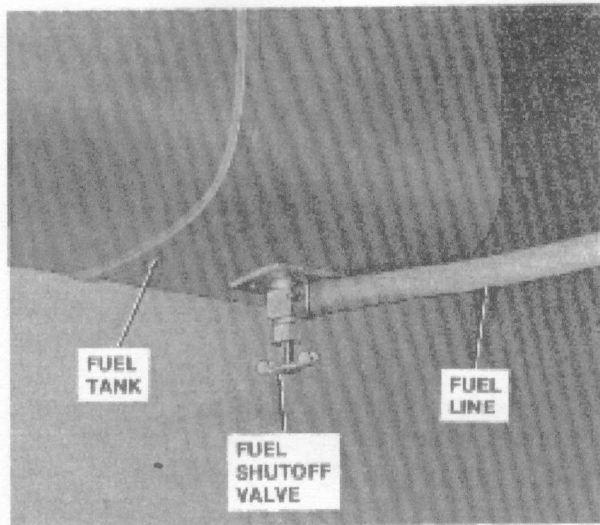
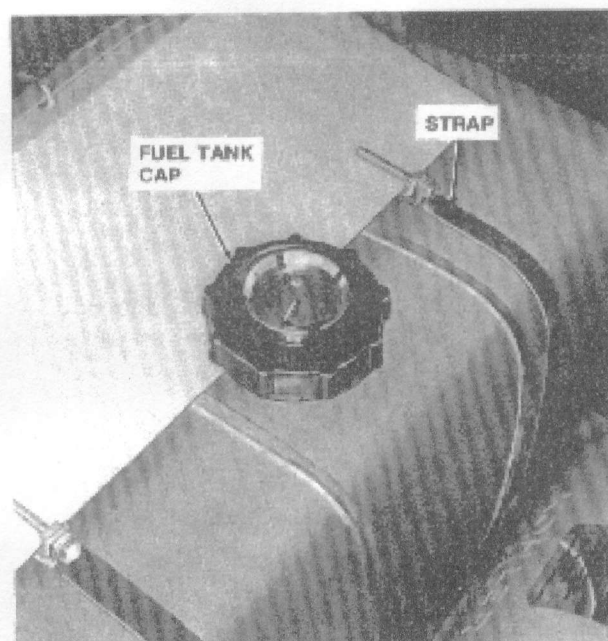
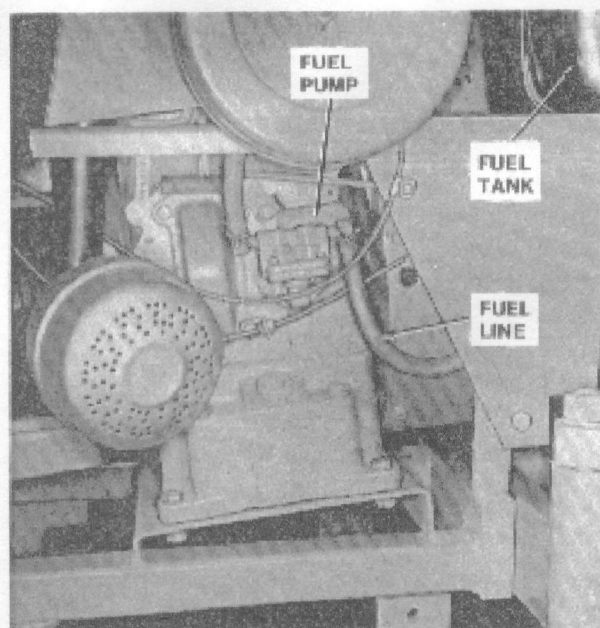

Figure 8. Fuel Shutoff Valve
Figure 11. Fuel Tank Cap
Figure 12. Fuel Pump and Fuel Line
1. Be sure fuel valve is open (fig. 8) Valve is closed when it is turned in. Turn out 3-1/2 times to open.
1. Open the engine hood and clean the area around the fuel tank cap (fig. 11).
6. With the fuel line shutoff valve open, fig. 8, check for leaks in the fuel tank, fuel lines and connections, fuel pump and carburetor. Correct all leaks before starting the engine.
To remove the fuel filter for cleaning or replacement, drain fuel tank by disconnecting fuel line at the engine (fig. 12) and drain fuel into a suitable container. Loosen screws on fuel tank straps (fig. 11) and remove fuel tank. Unscrew valve and filter from tank (fig. 8). Rinse filter in clean fuel. Reinstall and fill fuel tank. Check for leaks.